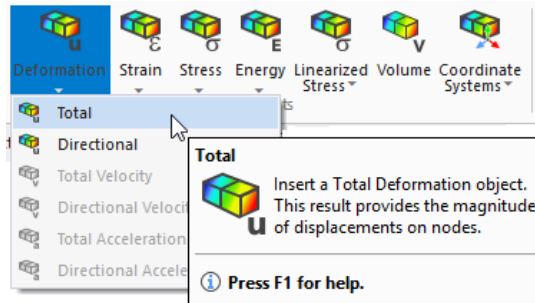

Figure 2-55 Choosing the **Total** tool from the **Deformation** drop-down
- Choose the **Total** tool from the **Deformation** drop-down in the **Solution** contextual tab, as shown in Figure 2-55; **Total Deformation** is attached under the **Solution** node. Also, the **Details of "Total Deformation"** window is displayed.